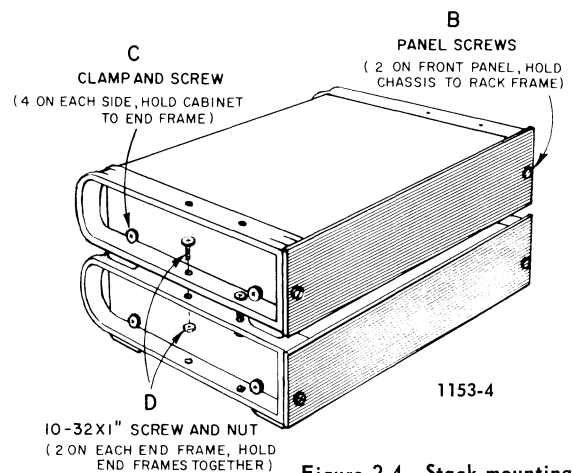

Figure 2-4. Stack mounting.
2.3.3 STACK MOUNTING (Figure 2-4).